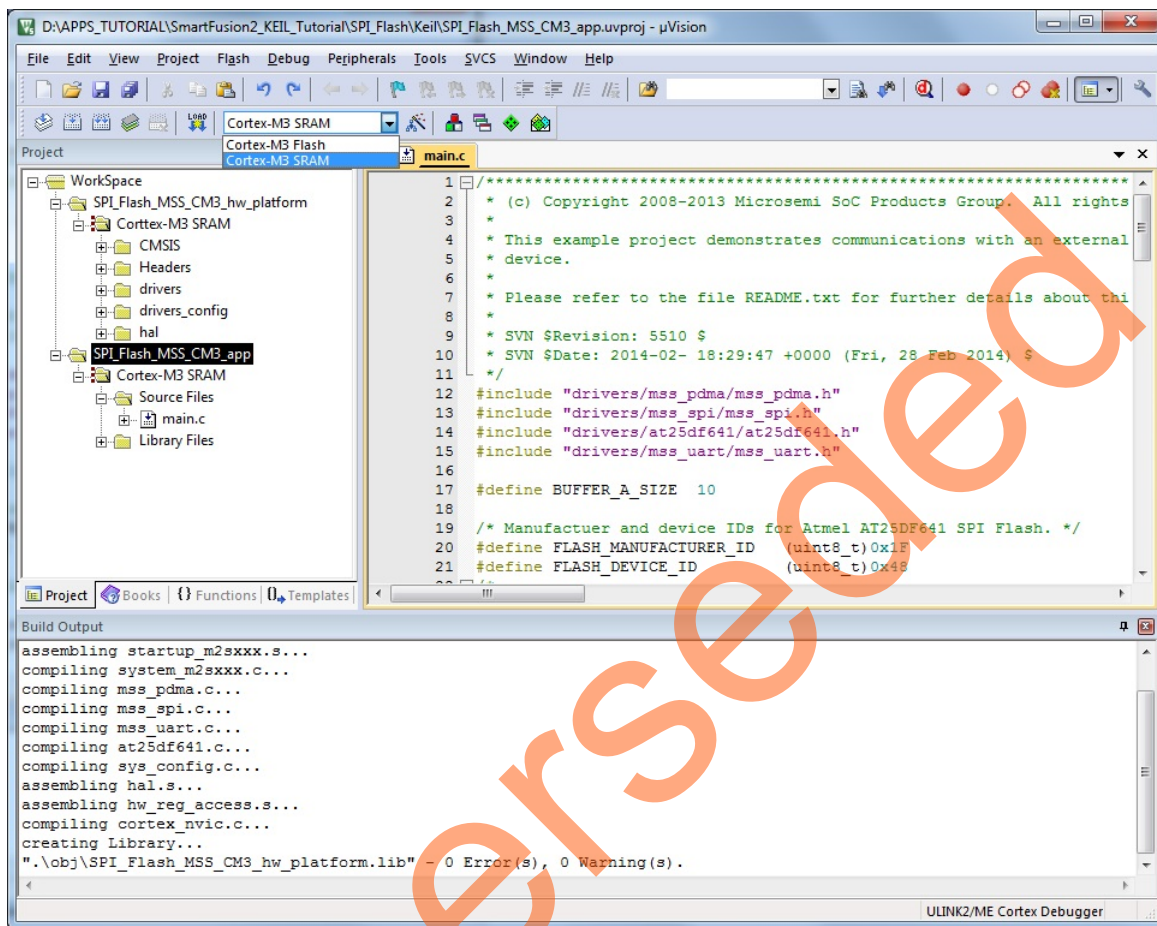

Figure 29 • Cortex-M3_SRAM Settings
10. Change **SPI_Flash_MSS_CM3_app** debug mode to **Cortex-M3_SRAM** by selecting **Cortex-M3_SRAM** from the drop-down menu as shown in Figure 29.